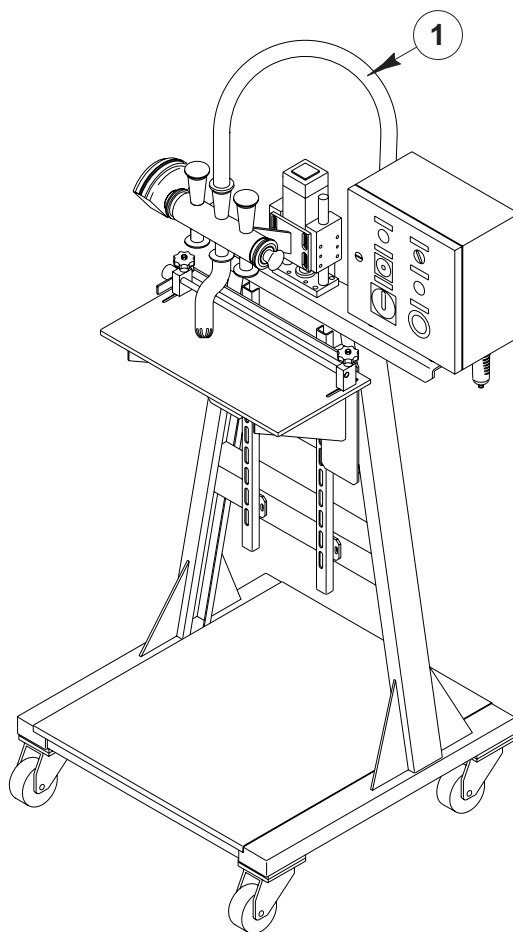

Fig. 4.3
- b. Connect the ice-cream entrance pipes to the production freezer (Position 1, Figure 4.3)